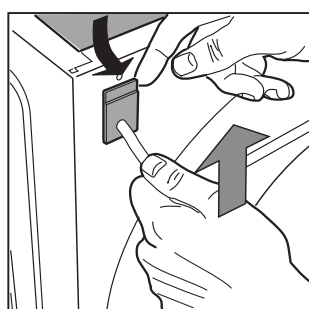

Fig. 5
4. Remove the upper part of the cable slightly from the back panel of the appliance, pull the power supply cable upwards and take it out [fig. 5].